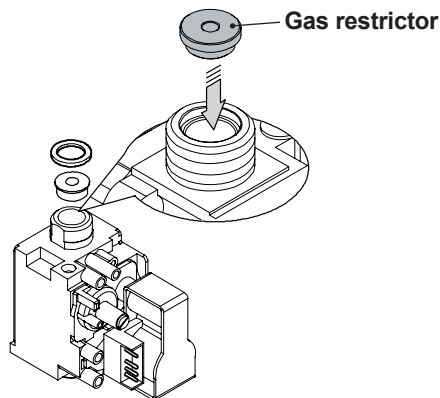

Fig. 8.2
- Carry out gas conversion by correctly replacing the gas restrictor (Fig. 8.2), referring to the "Technical Data" section page 32 (Activ A Plus 30C) and page 35 (Activ A Plus 35C).